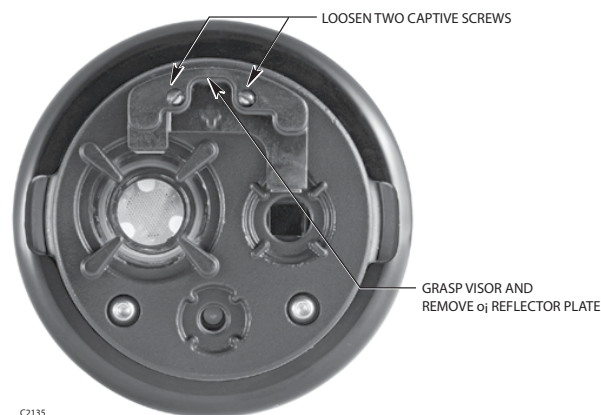

Figure 18—**oi** Reflector Plate Removal
2. Loosen the two captive screws, then grasp the **oi** reflector plate by the visor and remove it from the detector. See Figure 18.
The detector has a 90° cone of vision (horizontal) with the highest sensitivity lying along the central axis. See Figure 18.